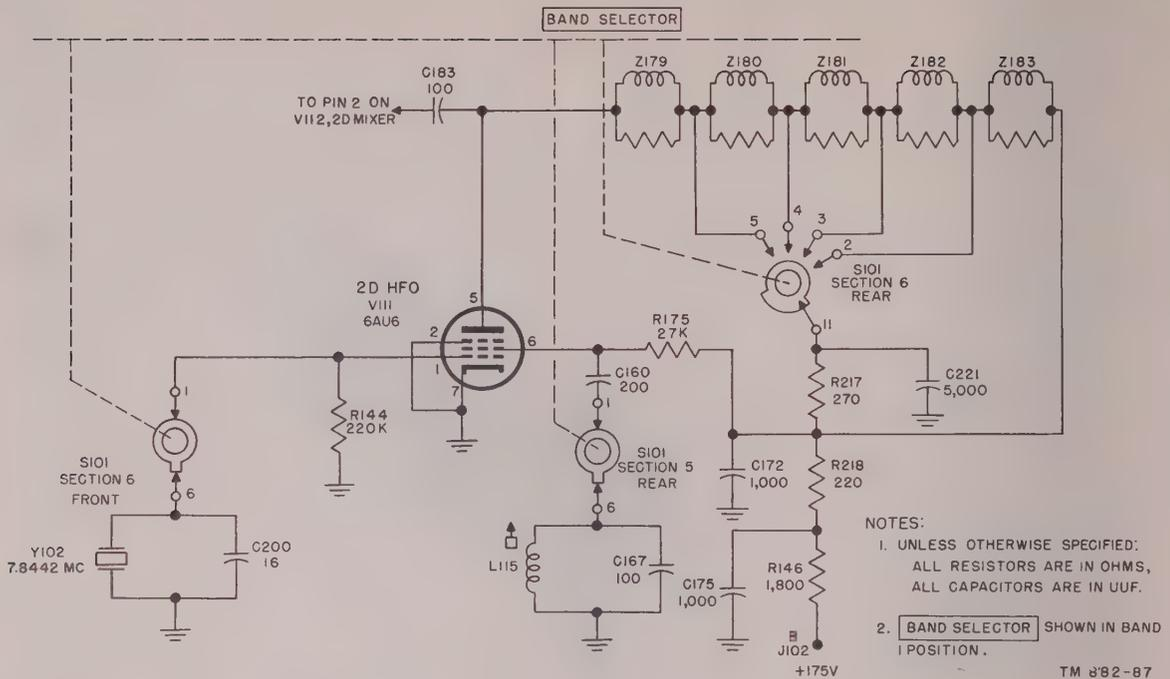

Figure 45. Crystal oscillator on band 1, simplified schematic.
(1) *Bands 1, 2, and 3* (fig. 45). On bands